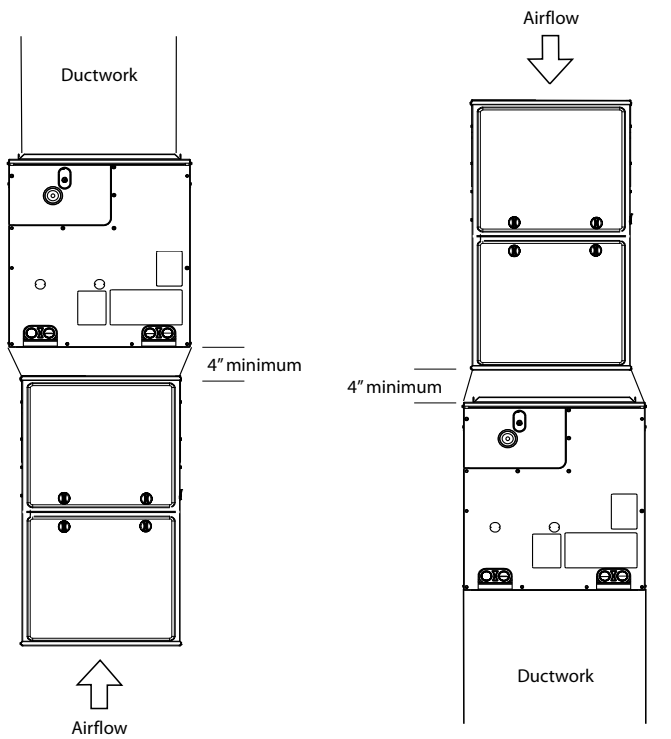

Fig. 3 – Adapter(s) Installation When Coil is Larger than Furnace ^{A200228C}
3. When installing wider coil on narrower furnace, it is recommended to use a transition adapter (Fig. 3).